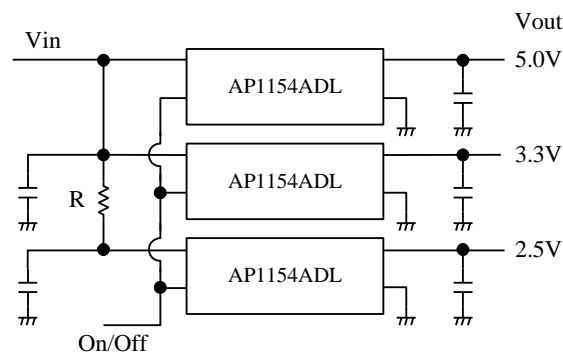

Figure 4. Parallel Connection Example
Figure 4 shows the multiple regulators being controlled by a single ON/OFF control signal. There is fear of overheating, because the power loss of the low voltage side (AP1154ADL20) is large. The series resistor (R) is put in the input line of the low output voltage regulator in order to prevent over-dissipation. The voltage dropped across the resistor reduces the large input-to-output voltage across the regulator, reducing the power dissipation in the device. When the thermal sensor works, a decrease of the output voltage, oscillation, etc. may be observed.